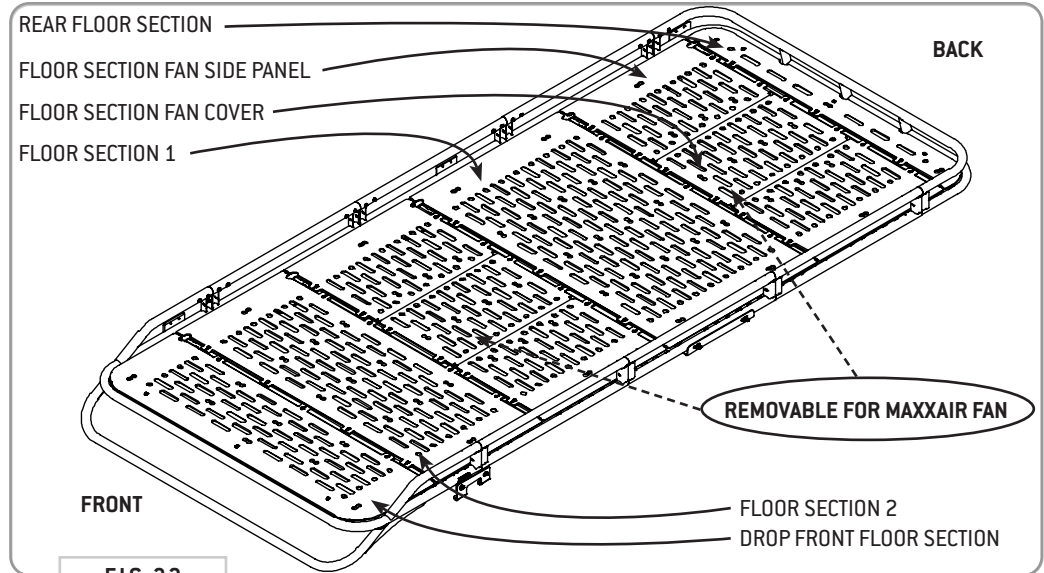
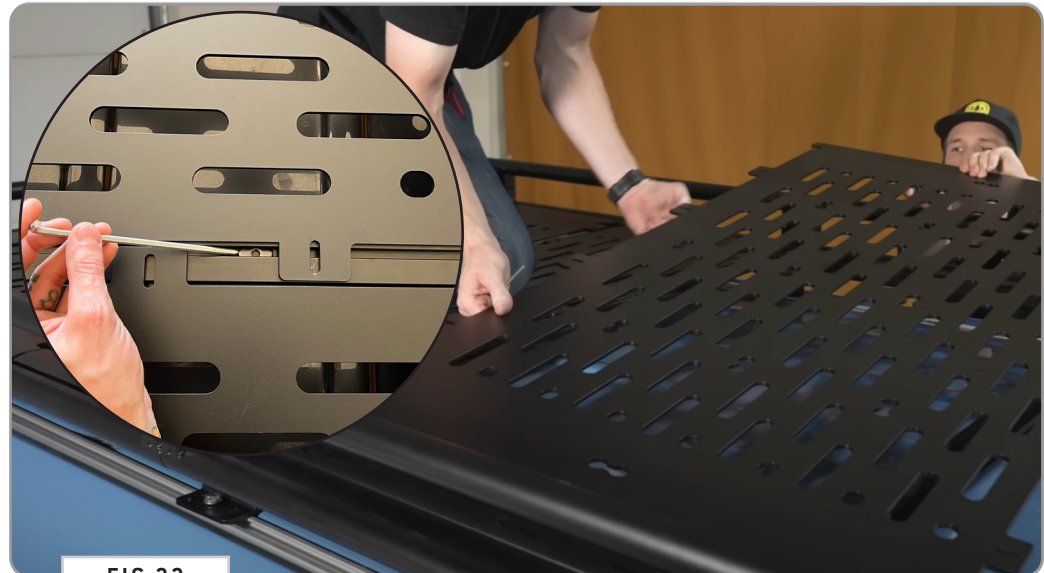

FIG 32
FIG 33
12.1 Install Floor Panels: Begin to layout your **Decking Panels** along the locations shown in **FIG 32**. Adjust the **T-Nuts** as necessary to line up with the available pill slots of the **Decking Panels** (**FIG 33**).